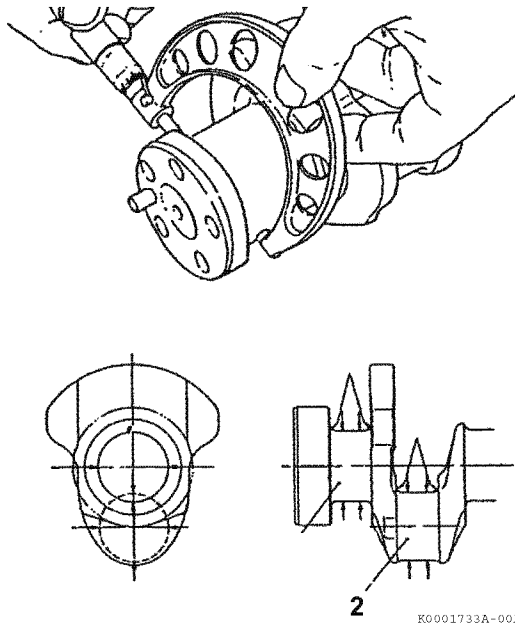

Figure 6-72
5. Measure the outside diameter of each crankpin (**Figure 6-72, (2)**) and main bearing journal (**Figure 6-72, (1)**). *See Crankshaft on page 6-6 for specifications.* Take measurements at several places around each bearing surface. If not within specification, grind the journals and install undersize bearings, or replace the crankshaft. Record the measurements.